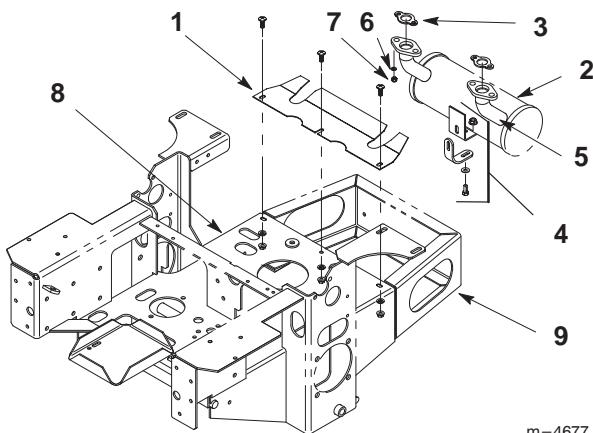

Figure 1
IMPORTANT: This kit is for units that have no heat shield or have a flat heat shield installed. If the unit has a heat shield like the one in figure 1 then no rework is required.
1. Remove lock washers and nuts holding muffler to engine manifold and the lower support hardware. Move muffler away from engine. Save lock washers, nuts and lower support hardware (Fig. 1).
3. Install appropriate gaskets onto the engine manifold (Fig. 1). Determine the correct gaskets by which fits correctly on manifold.
4. Install muffler onto the engine manifold with lock washers and nuts. Install muffler lower support bracket and hardware (Fig. 1 and 6).